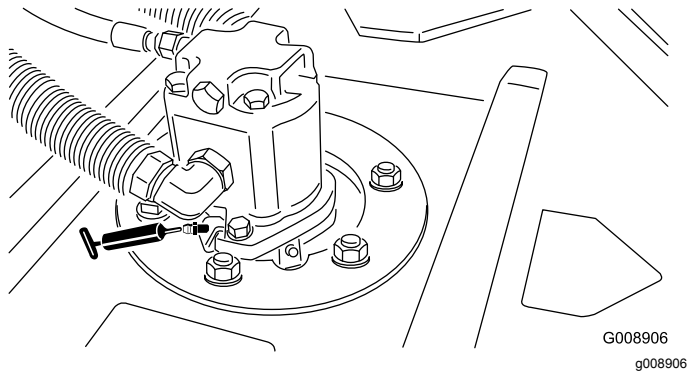

Figure 38
- 2 (per cutting unit) cutting unit spindle-shaft bearings (Figure 38)